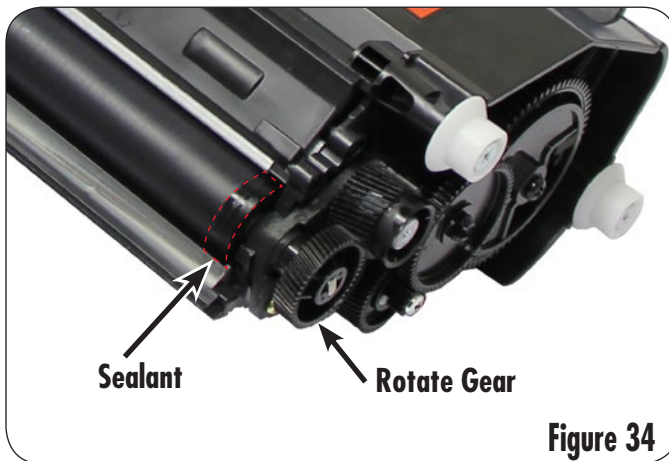

Figure 34
14. Rotate the developer roller drive gear counter clockwise 2-3 rotations to smooth out the cartridge sealant added earlier and create a complete seal (Figure 34).